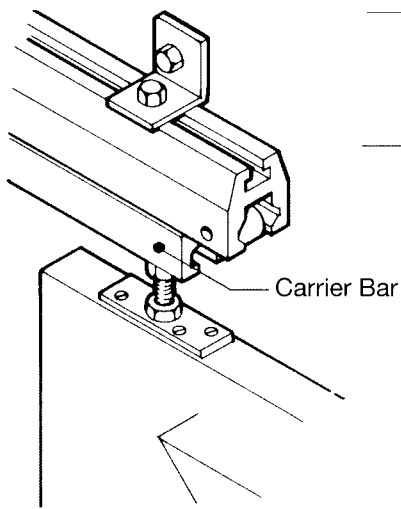

Fig. 9
8. Slide the pendant bolt and door assembly into the carrier bar extrusion. Position the door along the carrier bar. Adjust for height, check clearance and travel. **Lock nut firmly** in position. (Fig. 9)